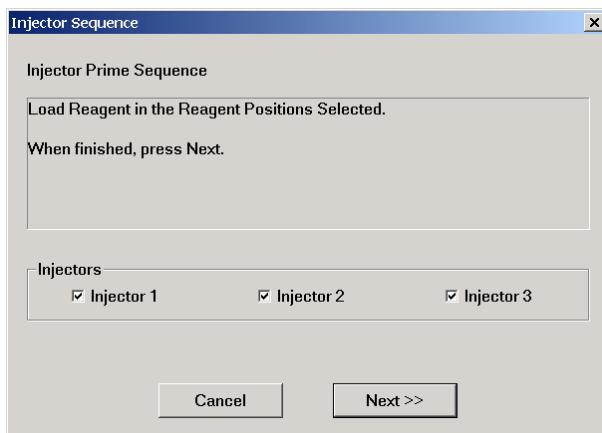

Figure 5-12: Connecting reagents to the injectors
- You are prompted to load reagents in the selected reagent positions (Figure 5-12).